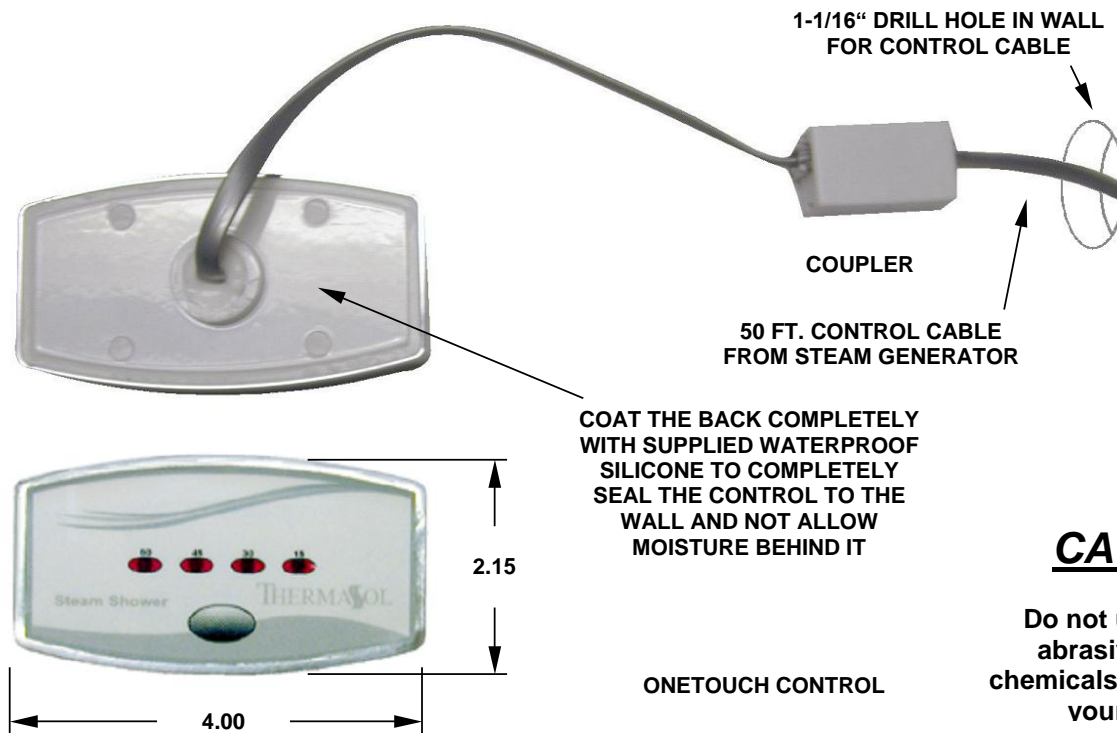

Figure 7
1. The **OneTouch** digital control (shown in Figure 7) can be located inside or outside the enclosure.